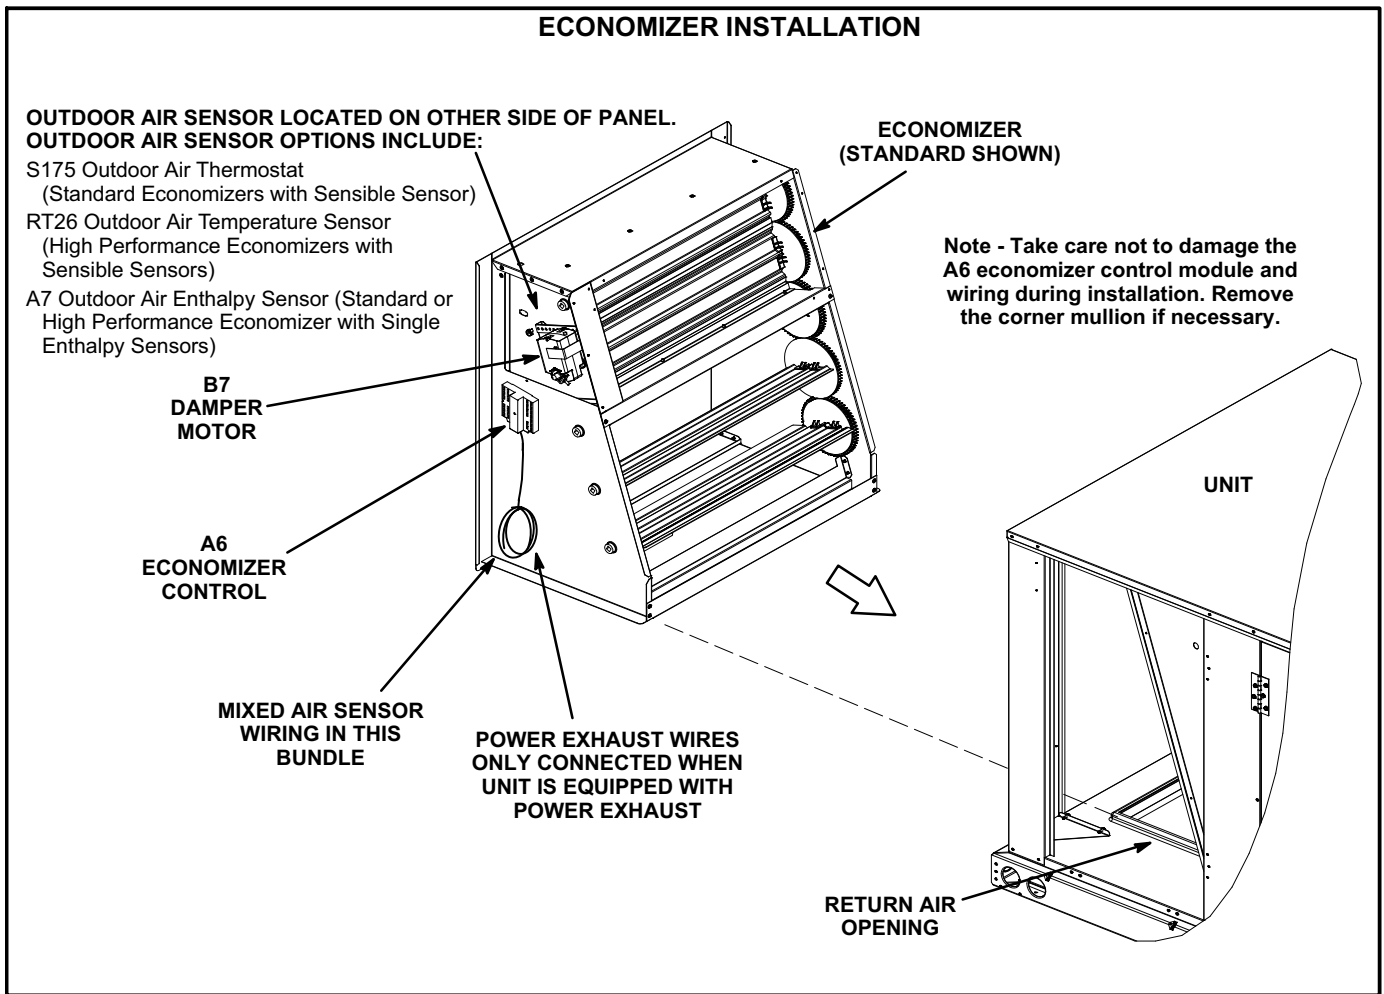

FIGURE 3
- 4- Install damper assembly through end of unit. Fit opening in bottom of damper assembly over the return air opening. See figure 3.